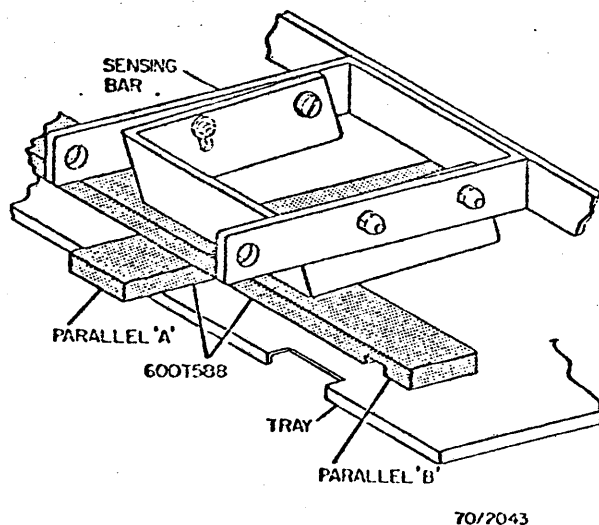

Fig. 3-65. Parallel Bars in Stack Height Position
1. Place the parallel bars under the sensing bar (Fig. 3-65) and raise the tray until it stops. Turn the machine off.
5. Place parallel bars as in Fig. 3-65.